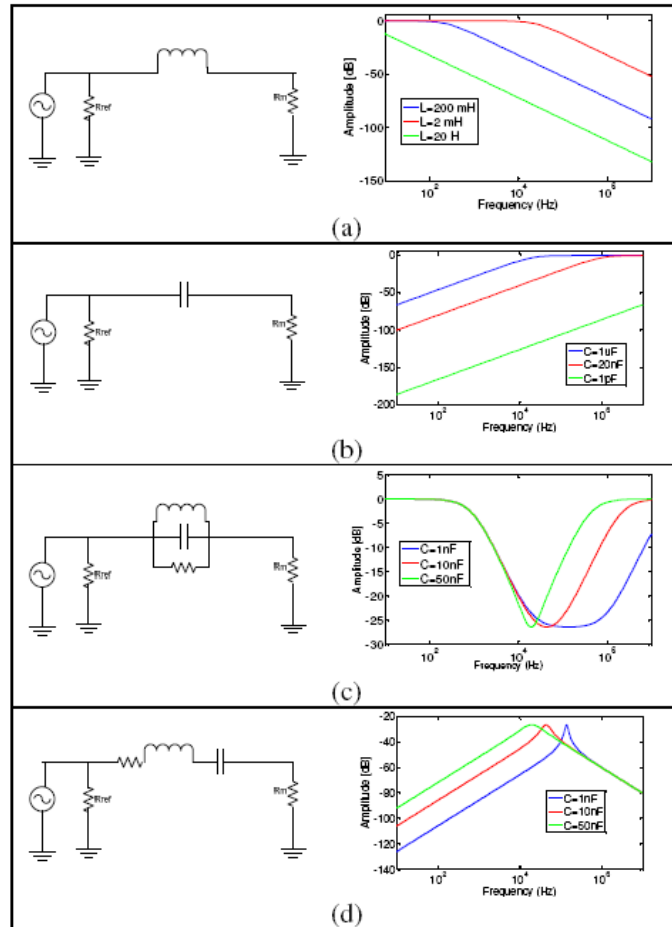

Figure 3. Series and parallel resonances of RLC networks
If $Z_{tra} = X_L$ in equation (1), it can be said that as long as the frequency increases, $H(f)$ decreases. This explains the typical increase in the attenuation of an inductance as illustrated in Fig. 3(a). In contrast, if $Z_{tra} = X_C$ in (1), as long as the frequency increases, the attenuation decreases as depicted in Fig. 3(b).
Other aspect of major importance for the interpretation is the concept of resonance. In an RLC network the resonances are series or parallel resonances. Series resonances are related to a maximal transfer of energy between two systems, that is, to the minimal impedance at a determined frequency. While a parallel resonance is related to minimal transfer of energy between two systems (maximal impedance). In the plot of the amplitude, minimal impedances are seen as minimal attenuations while maximal impedances as minimal attenuations according to (1). In Fig. 3(c) and 3(d) the responses of RLC networks connected in parallel and in series are shown. The simulations were done using an inductance of 50 mH. In conclusion, the maximal peaks in the frequency response are created by series RLC networks and the minimal peaks by parallel RLC networks. However, it is worth to mention that in the frequency response not all the maximal and minimal peaks are resonances. The best way of recognizing resonances is by taking a look at the plot of the phase. When a resonance is present, the phase should be zero, what means that the response is 100% resistive.